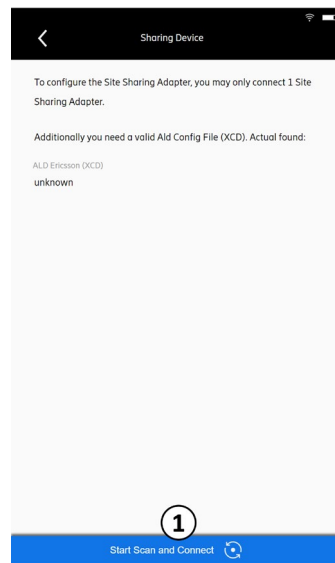

Fig. 101: Sharing: Site sharing adapter configuration information
① Cancels the mode change and returns to the main menu
② Changes the ALC mode to the Sharing mode
③ Closes the warning message and returns to the main menu
① Changes the ALC mode to the Sharing mode
### 3. Tap Connect (① in Fig. 101).